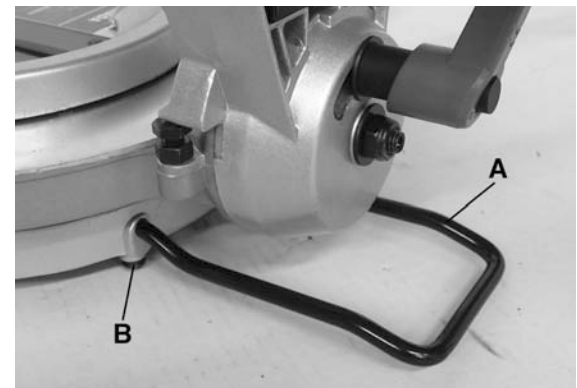

FIGURE 5
The rear base support (A) Fig.5 gets installed by inserting it into the mounting holes at the rear of the base. Push it in completely and secure it into place by tightening the pan head screw (B) under the base.